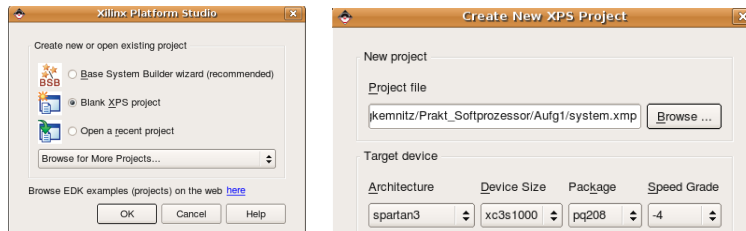

Figure 2: Create a new project
- Select »Blank XPS project« (figure 2 left). Continue with »OK«.
- Define the working directory for the project via »Project file« ▷ »Browse« and select the programmable logic circuit of the test board: »spartan3«, »xc3s1000«, »ft256« and »-4« (figure 2 right¹).